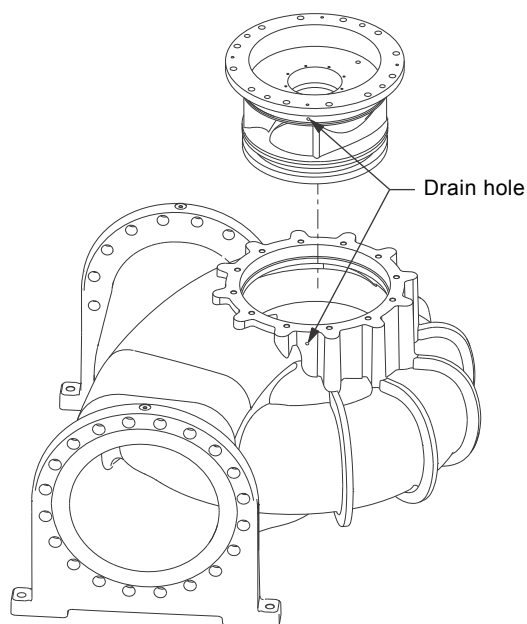

Fig. 5 Drain hole in pump housing and pump head
1. Fit O-ring (pos. 109).
2. Fit pump head (pos. 77) on motor stool (pos. 2) with the marks aligned.
When you fit a new pump head, the drain hole in the pump housing (pos. 6) must be aligned with the drain hole in the pump head (pos. 77). See fig. 5.